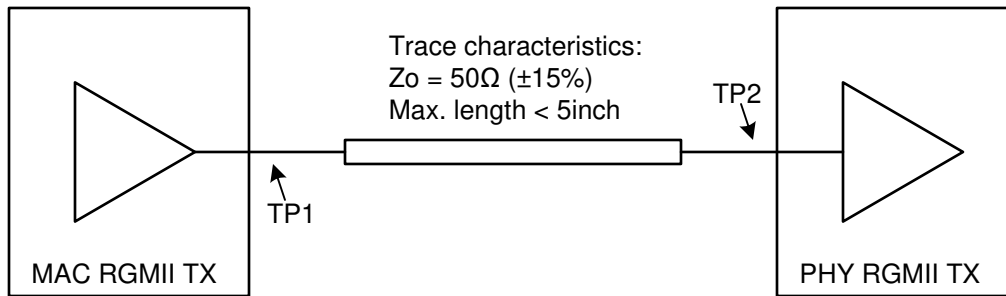

Figure 7-15. RGMII TX Requirements
- Figure 7-15 shows a RGMII interface requirements for TX* signals. MAC RGMII driver output impedance should be 50Ohm+/-20%.
- Skew for all RGMII TX signals at TP2, in Figure 7-15, should be $\pm 500\text{ps}$.
- Signal Integrity at TP1 and TP2, in Figure 7-15, should be verified with IBIS model simulation and ensured conformance to following requirements: